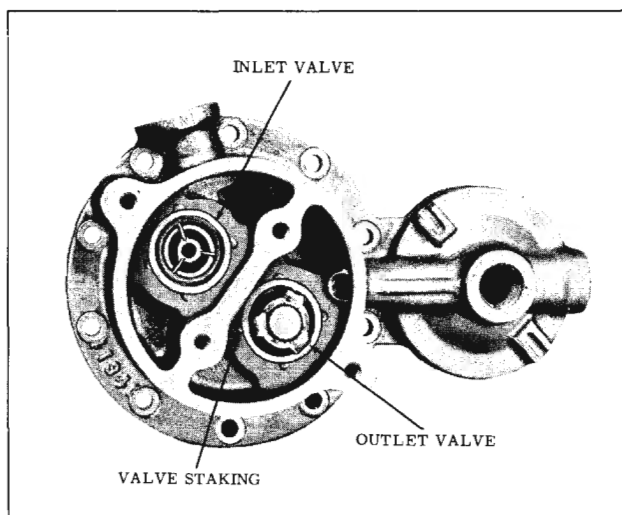

Fig. 8-60 Fuel Inlet and Outlet Valves
6. If valves are to be replaced, remove the staking then remove the inlet and outlet valves and gaskets from the fuel cover. (Fig. 8-60)
4. Place valve gaskets in recesses provided in fuel cover. Install valves as shown in Fig. 8-60 and stake in place.